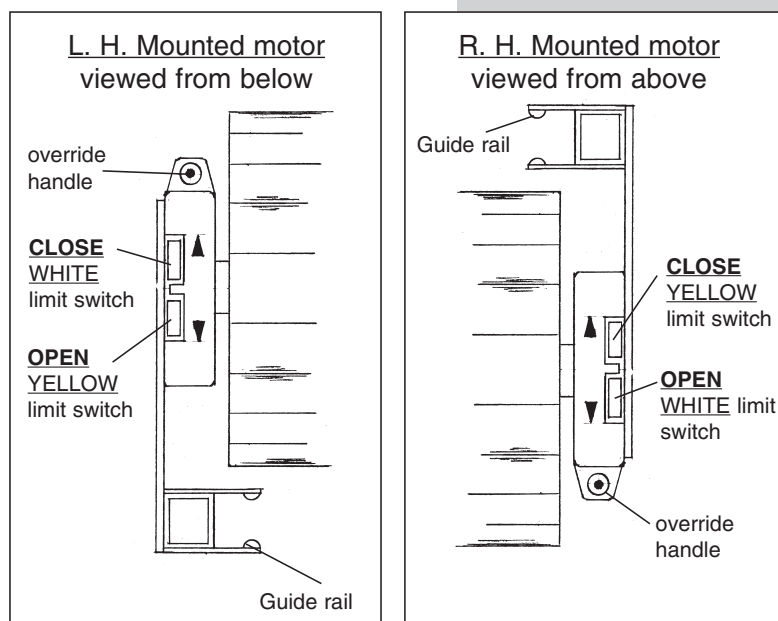

Fig 25
9.1.2 Remove the protective cap from the head of the motor. (see Fig 25)
9.1.3 Fully depress both limit switch buttons. (see Fig 25). They will automatically lock in the down position.
9.1.5 Identify the OPEN limit switch button on the motor (see Fig 25 for RH or LH mounted motor).
9.2.2 Identify the CLOSE limit switch on the motor (see Fig 25).